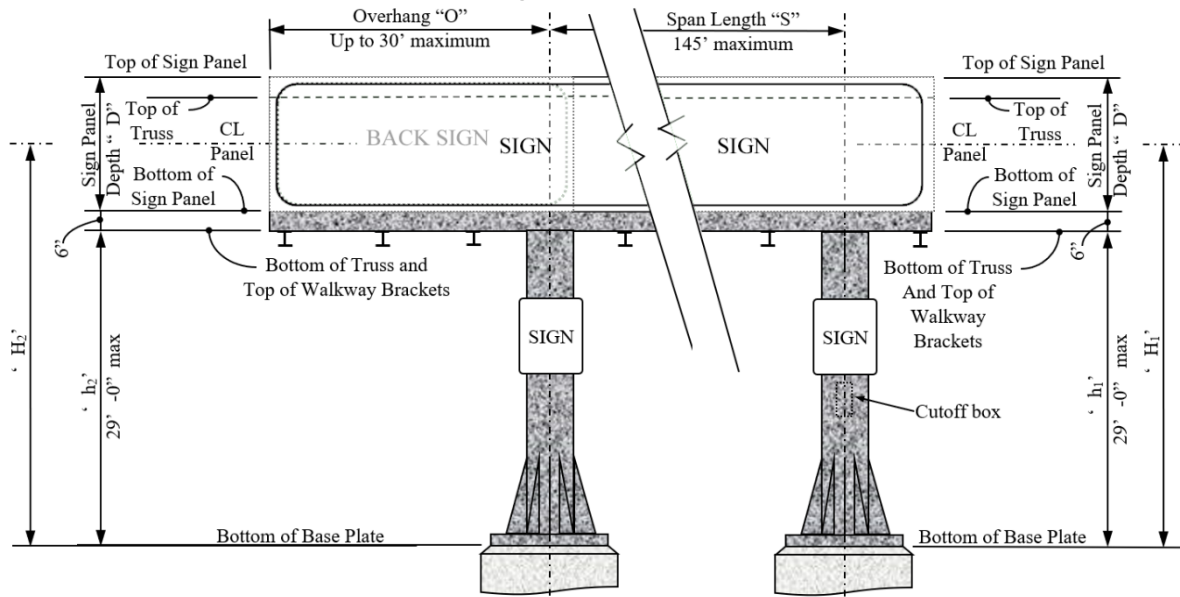

Figure 1: Explanation of dimensions
- Determine the basic dimensions (see Figure 1)